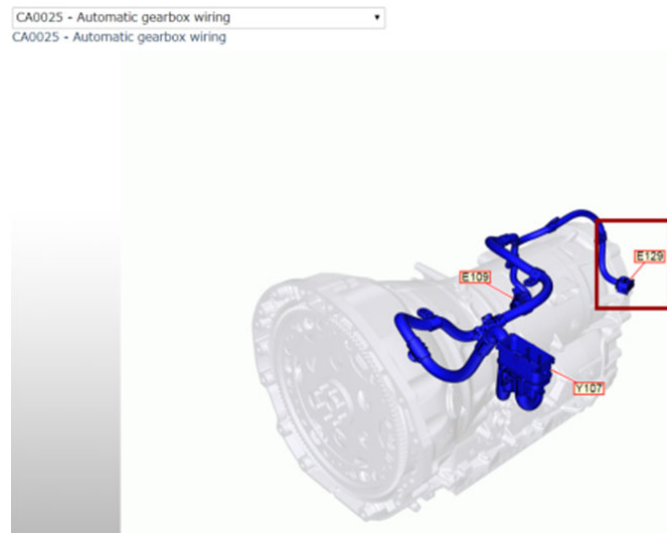

Figure 4: connector E129-B is the electrical connector of AWD (All-Wheel Drive) control module in case of Levante. TechDoc Version 209.
- 6) Disconnect the electrical connector for the AWD Module, as shown in Figure 4 (case of Levante).